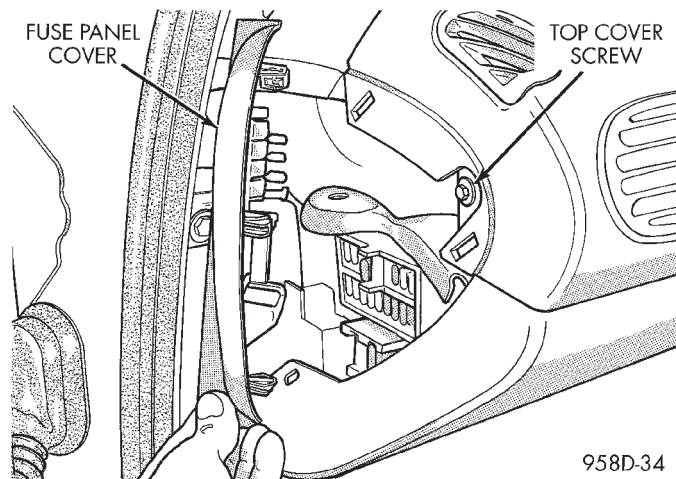

Fig. 10 Instrument Panel Top Cover-LeftSide
(7) Remove fuse panel cover from left end of instrument panel. Remove screw holding end of instrument panel top cover (Fig. 10).